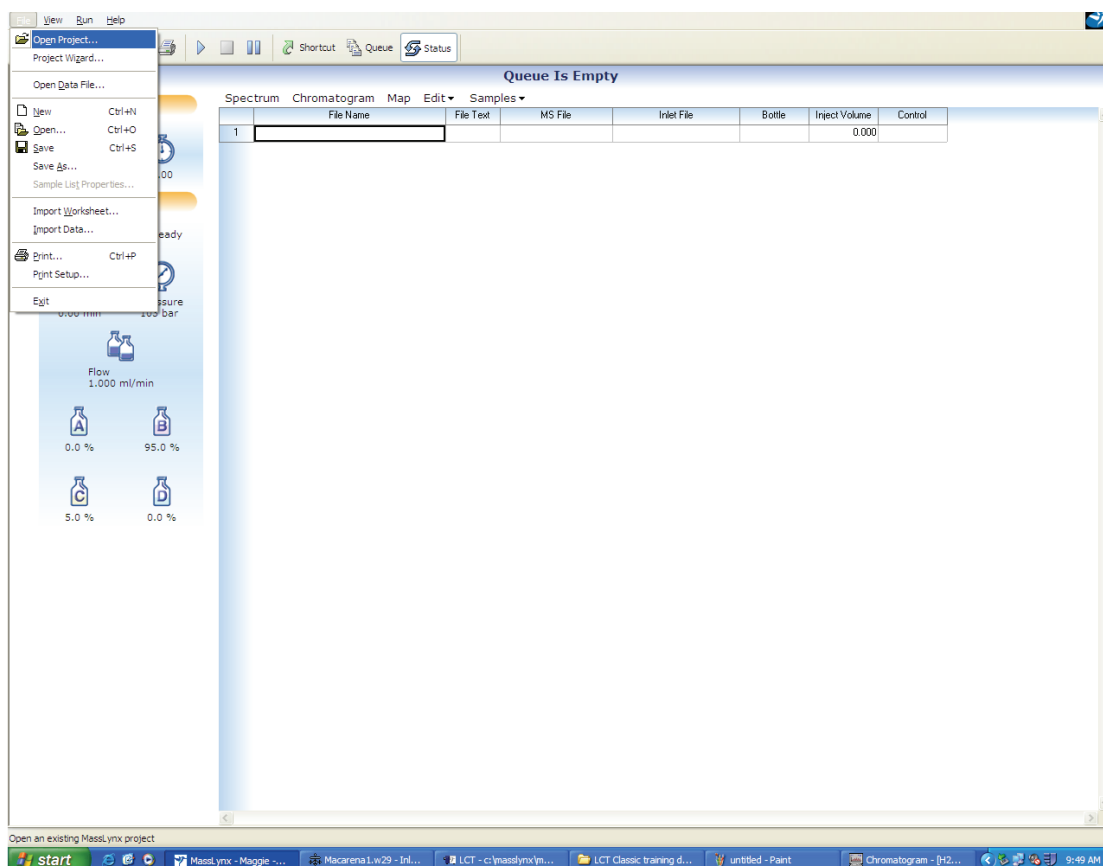

Figure 1: Open your masslynx project.
- 1.1 Open your masslynx project: File/Open project/select your project name (Fig 1). A warning message will appear, click 'yes'.